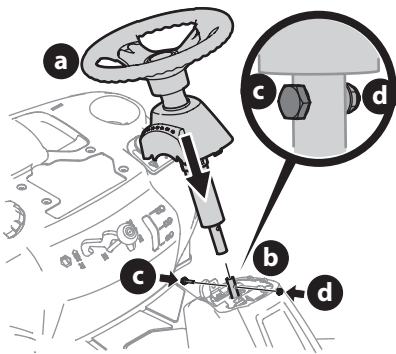

Figure 4
4. Lower the steering wheel assembly (a) onto the lower steering shaft (b) and secure with the shoulder bolt (c) and lock nut (d) previously removed (Figure 4).